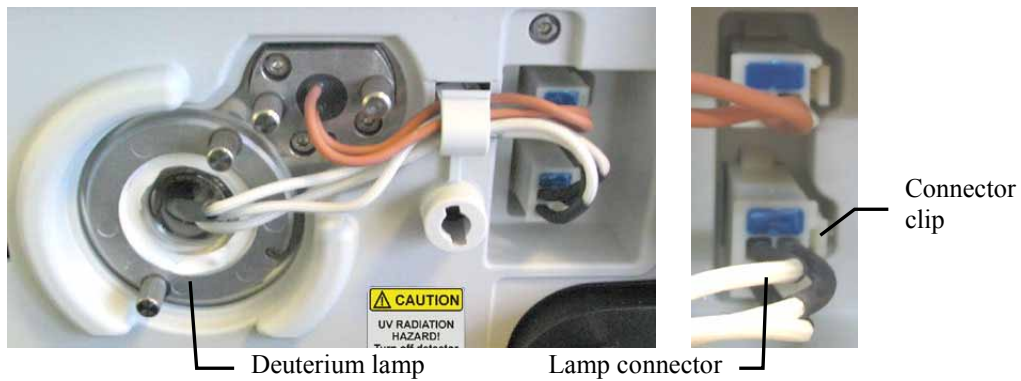

Fig. 28: Deuterium lamp connector
- Reconnect the lamp connector (→ Fig. 28).